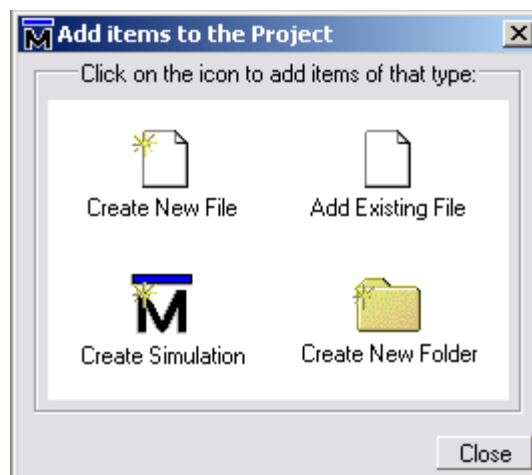

Figure 3: Add Items to the Project Dialog
4. After hitting OK, an “Add items to the Project” dialog box appears (See Figure 3).